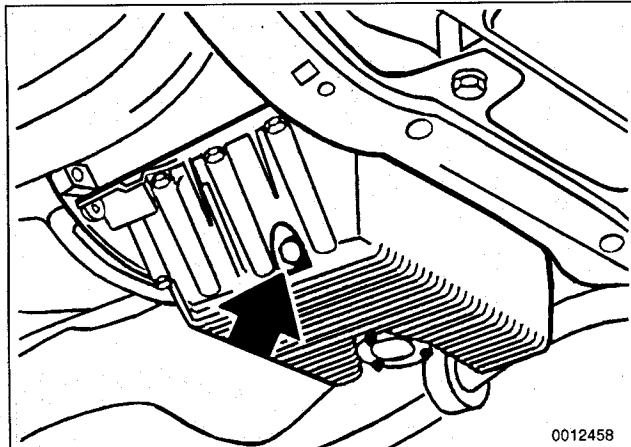

Fig. 5. Engine oil drain plug (arrow) in oil pan.
2. With car on level ground, place drain pan under oil drain plug. See Fig. 5.